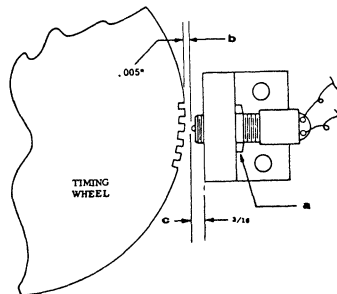

Figure 4-12. Reluctance Pickup
8. RELUCTANCE PICKUP (figure 4-12) CAUTION: The pickup head and the timing wheel may be damaged if these adjustments are made carelessly or inaccurately.